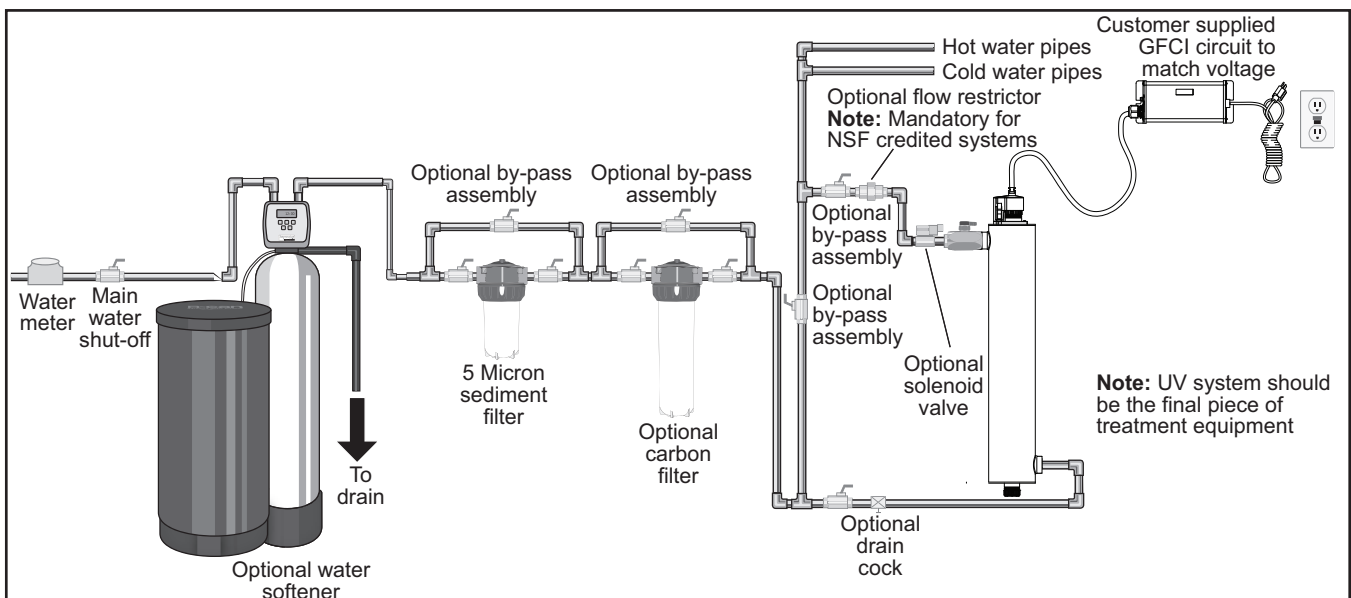

Figure 2 Disinfection System
1. Figure 2 shows the installation of a typical disinfection system and the related components that may be used for the installation. The use of a by-pass assembly is recommended in case the system requires “off-line” maintenance. In this case, note the system requires a supplementary disinfection for the distribution system if any water is used during by-pass condition. In addition, during by-pass, the water will NOT be disinfected and a “DO NOT CONSUME THE WATER” tag should be physically installed on the by-pass assembly until such time as the system is sanitized and returned to service. For more information, refer to Section 3.2. If the water is to be consumed while the system is off-line, the water must be boiled for twenty minutes prior to consumption.